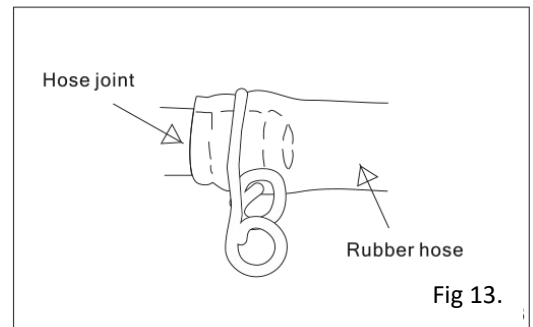

Fig 13.
7. Push the rubber hose onto the hose joint as far as it will go. Do not use a vinyl plastic hose, as this can be dangerous. Secure the hose with both sides of hose clamp.(Fig.13) see to it that the rubber hose does not touch a part of the gas cooker nor lies underneath it.